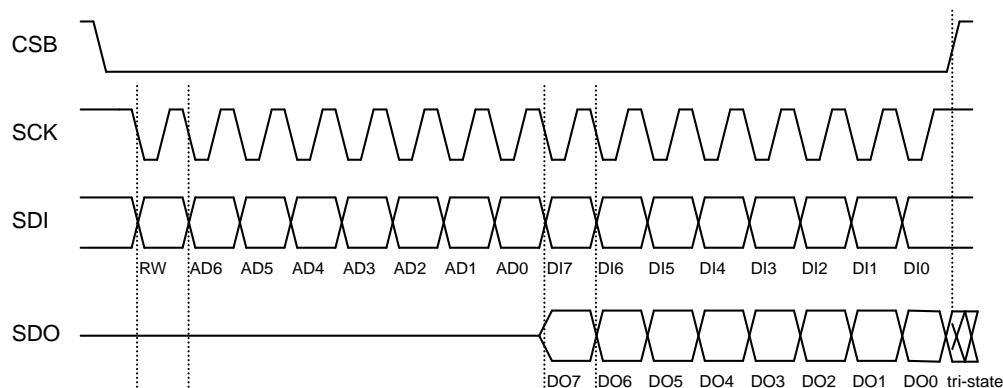

Figure 9: SPI protocol (shown for mode '11' in 4-wire configuration)
**CSB is active low and has an integrated pull-up resistor.** Data on SDI is latched by the device at SCK rising edge and SDO is changed at SCK falling edge. Communication **starts when CSB goes to low and stops when CSB goes to high**; during these transitions on CSB, SCK must be stable. The SPI protocol is shown in Figure 9. For timing details, please review Table 28.